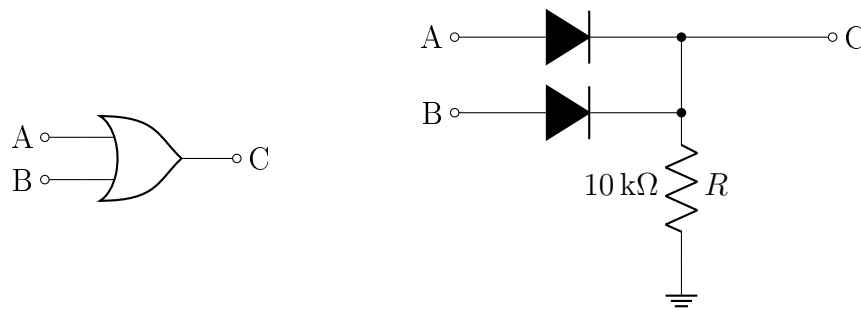

Figure 1: OR Gate Symbol and Discrete Diode Implementation
Consider the diode as a simple switch. It is closed (ON) when the voltage on the anode or p-side is higher than that on the cathode or n-side. Current flows in the direction of the arrow in the diode's schematic symbol. The logic symbol of an OR gate and its discrete diode implementation are shown in Figure 1. In an OR gate, the output is '1' if either of the inputs are '1'. In other words, if either of the inputs has a high voltage, its diode will conduct and current will flow to the output. A high voltage will appear across the resistor, equal to the input voltage minus a voltage drop across the silicon diode. If both of the inputs are '0', then neither of the diodes will conduct and the gate's output voltage will be zero.
Note that '+' is used to represent the OR operation. Hence, in Figure 1 we have